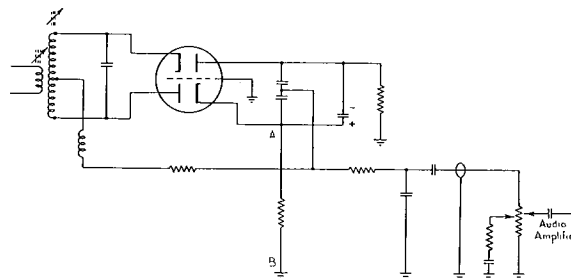

Fig. 9. Typical TV discriminator circuit.
5. Connect the vertical input terminals of the oscilloscope to the discriminator circuit at points A and B. Fig. 9.